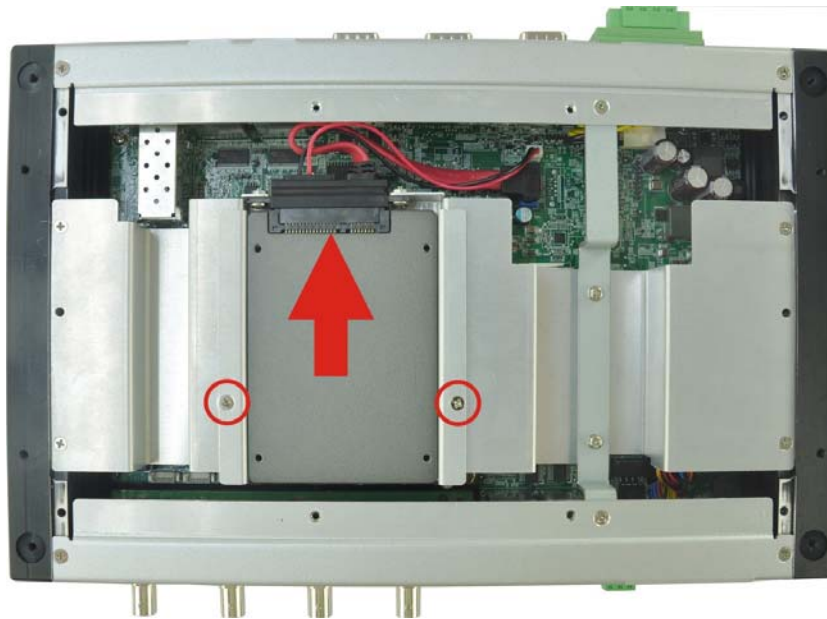

Figure 3-4: HDD Bracket Installation
Step 5: Slide the HDD bracket to connect the HDD to the SATA connector. Secure the HDD bracket with TANK-700 by the 2 retention screws that were previously removed (**Figure 3-4**).